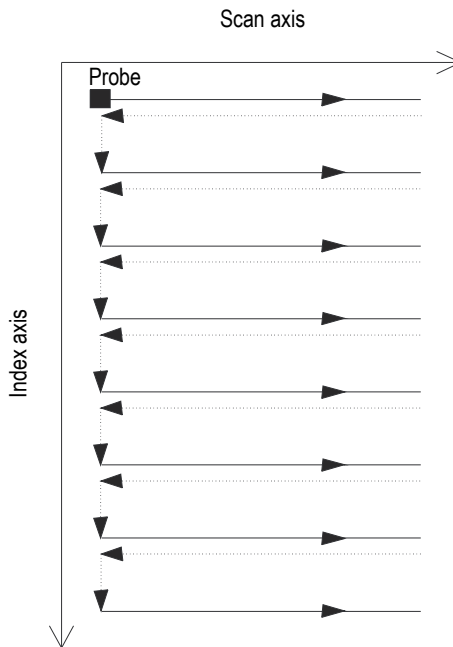

Figure 5-6 Unidirectional surface scan
A surface scan uses two axes: (1) the scan axis, which is the mechanical axis of the scanning lines, and (2) the index axis, which is the mechanical axis of movement between the scanning lines. At the end of each scan along the scan axis, an increment is added to the position along the index axis. Data acquisition for unidirectional scans is only carried out in one direction along the scan axis, as shown in Figure 5-6 on page 161. This type of scan is typically used with scanning mechanisms that have backlash (free play) in the scan direction.